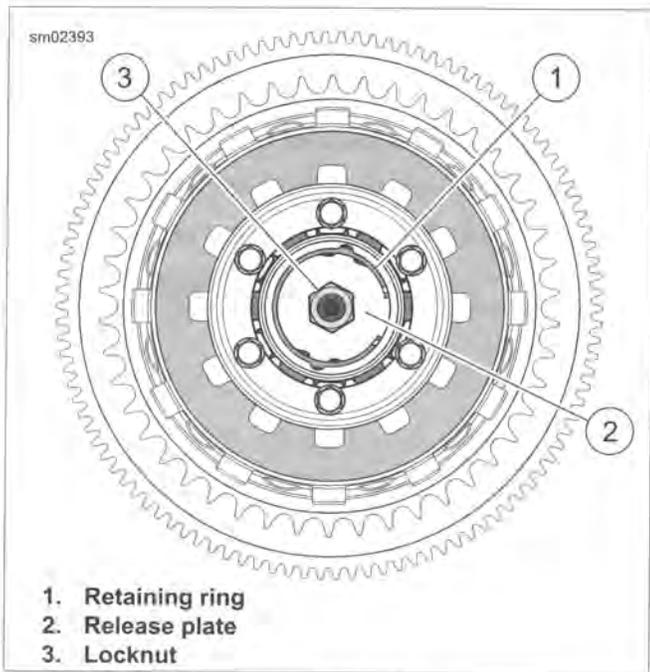

Figure 5-6. Clutch
6. See Figure 5-6. Loosen locknut (3).
7. Remove retaining ring (1) and release plate (2).